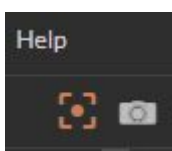

Fig.21
2. Select the laser focus icon.(See Fig.21)